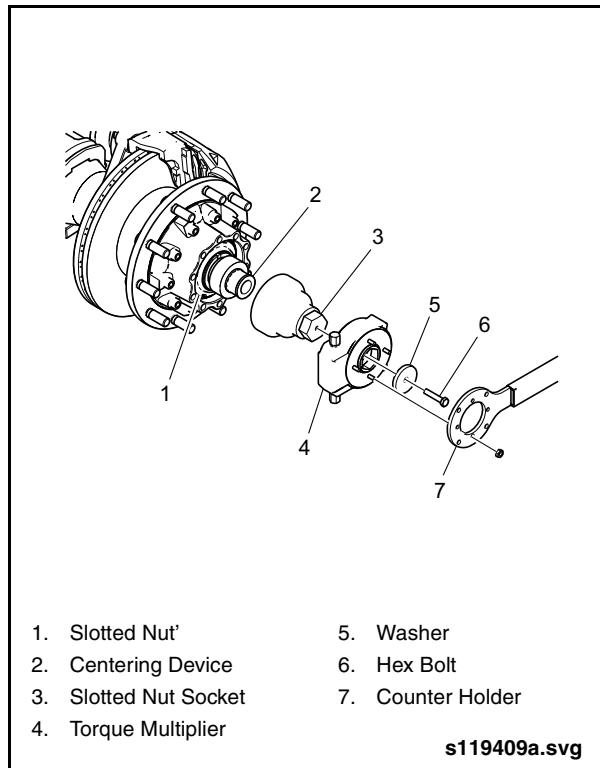

Fig. 2-15: Loosening Slotted Nut
4. Operate the torque multiplier in a counter-clockwise direction to loosen the slotted nut. See "Fig. 2-15: Loosening Slotted Nut" on page 18.